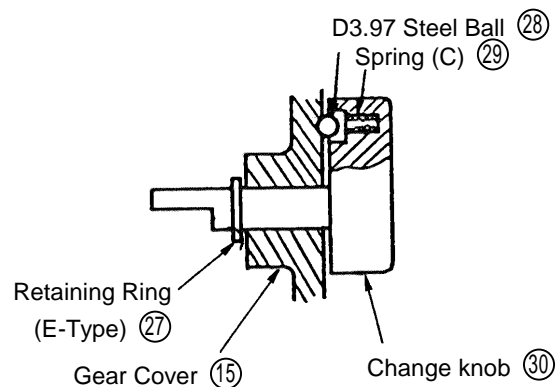

Fig. 16
(3) Assemble Spring (C) (29) and the D3.97 Steel Ball (28) in the Change Knob (30) as shown in Fig. 16.